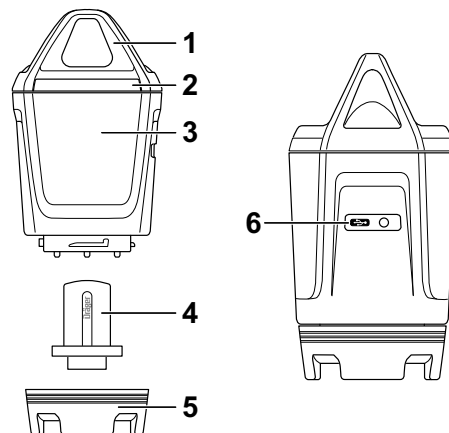

Fig. 2 Overview
- Loosen the bayonet ring (Fig. 2/5).
- Insert the new sensor (Fig. 2/4) into the opening.
- Secure the sensor with the bayonet ring (Fig. 2/5).